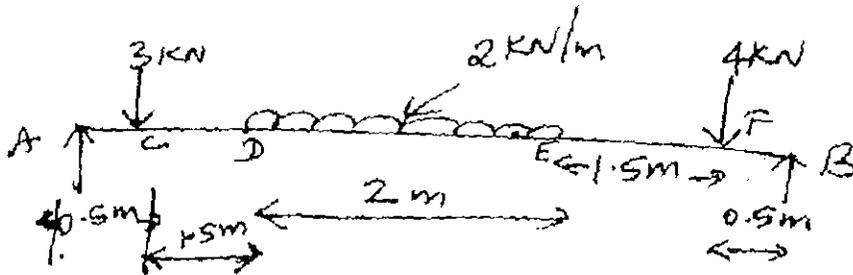

Fig. Q. 12(a)
12. (a) A simply supported beam is loaded as shown in Fig. Q. 12(a). Draw the shear force and bending moment diagrams. (16)